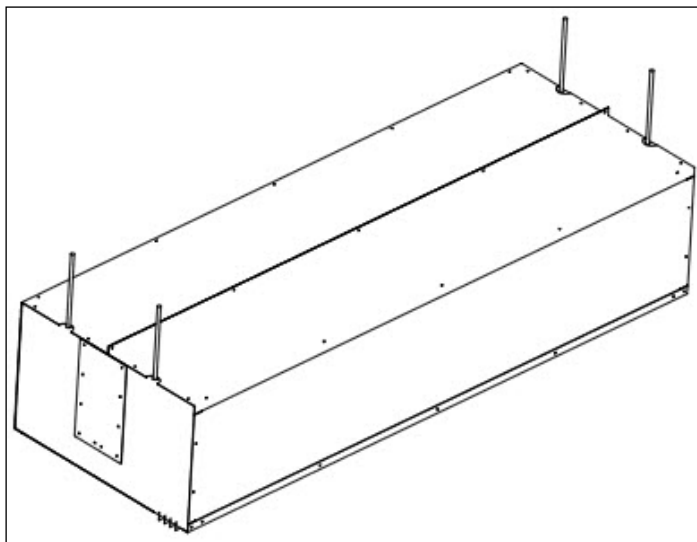

FIG. 2
4. All units are equipped with (4) 3/8" threaded inserts on top for overhead installation (FIG. 2)
5. Determine the exact mounting locations to suspend the unit above the ceiling so that the unit is centered and parallel with the door opening. Use (4) threaded rods to suspend the enclosure to the ceiling.
7. If applicable, for tandem installation (units longer than 72") of products mounted side by side, allow no more than 6" between the two units. Note that (4) sets of threaded rods are used to suspend each unit to the